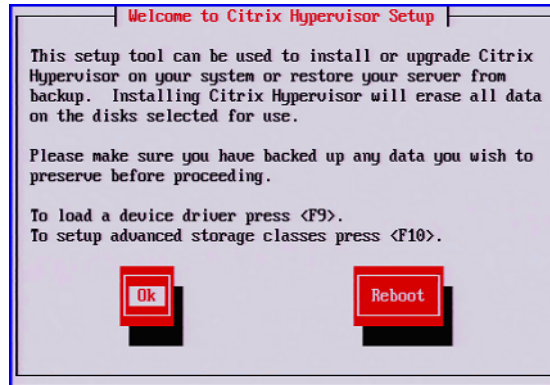

Figure 3-16. Loading the Device Driver
4. Insert the DUD CD/ISO. The GUI Welcome screen appears (see Figure 3-16).